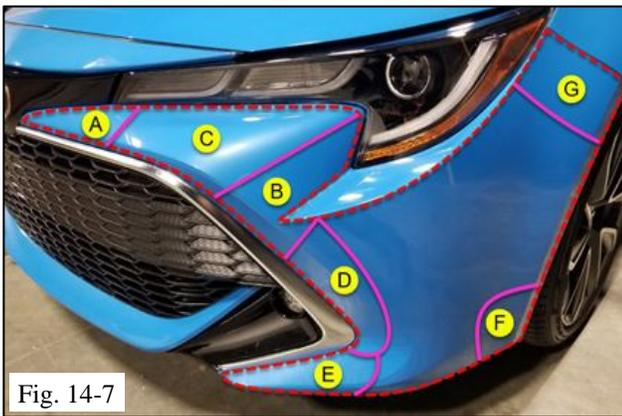

Fig. 14-7
- (g) Apply alcohol solution along the outside and upper edges. Stretch the material out and up to align the top corner near the head light as well as the lower corner near the wheel well. Hold the film in place with one hand and use the other to secure it with the squeegee (Fig. 14-7).